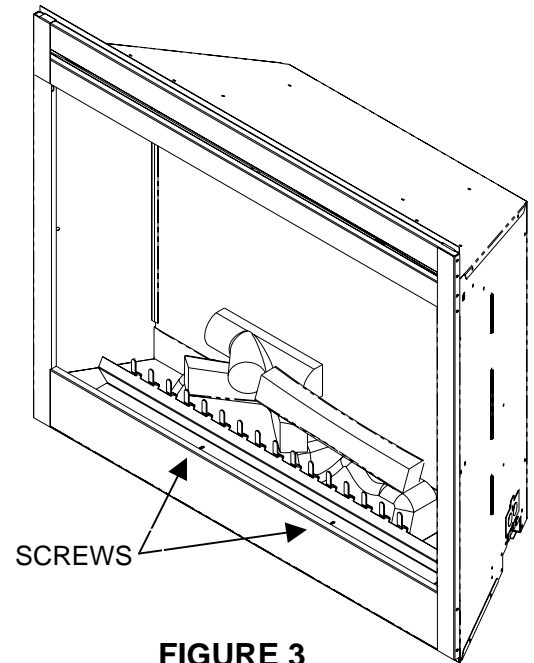

FIGURE 3
2. Remove two screws on log bracket and set aside. (FIGURE 3)